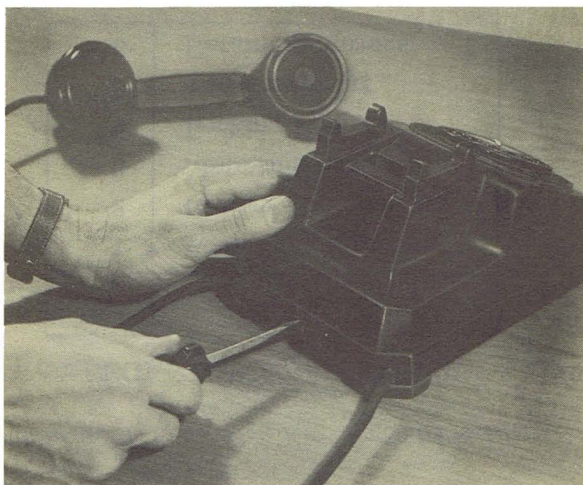

Figure 22. Housing Removal.
(1) Remove the housing by loosening the lock screw in the rear clip of the housing and lifting up and forward (fig. 22).
(2) Remove the dial bracket by disengaging the twin prongs of bracket from the baseplate and by lifting the assembly up and back.
(3) Remove the dial blank cover from the bracket by removing the self tapping screws.
(4) Place the dial bracket, with the prongs downward, on the back of the dial (being sure to line the holes up). Place a cable clamp (203052-000) on one mounting screw and insert it into the right mounting hole. The second screw is then inserted into the other mounting hole, securing the bracket to the dial assembly.
(5) Remove strap B between terminals 1 and 3 of the coil-capacitor assembly.